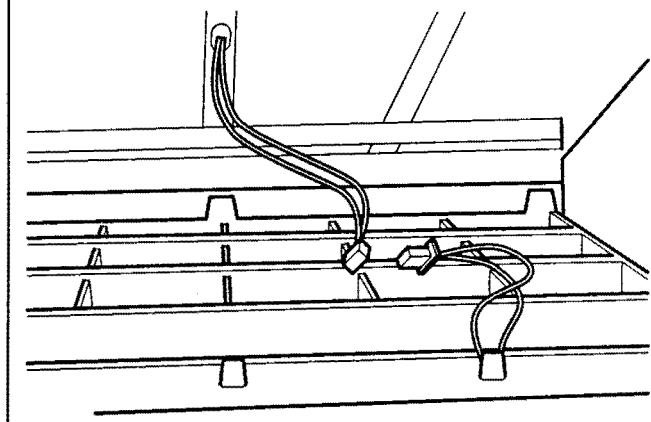

Figure 2-10. Control Panel Electrical Supply
5. Disconnect electrical supply at the top of upper control panel assembly (Figure 2-10).